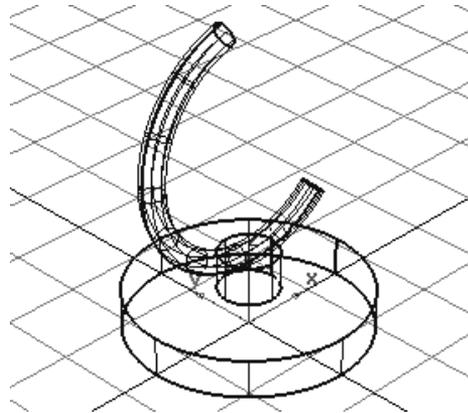

Figure 2-103 Model after rotating the ring
6. Enter **90, 45, 0** in the promptline and press ENTER; the ring is rotated about the X and Y axes, as shown in Figure 2-103.